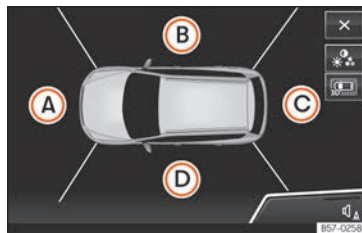

Fig. 292 Display of the Area View system: aerial view.
Key to the Fig. 292:
The aerial view is generated by combining the images from all the cameras »» Fig. 292. The aerial view can be selected by pressing the *vehicle* in the area.
Select the corresponding view by pressing the different areas »» Fig. 292 (A) to (D) of the aerial view or the reduced aerial view.
The infotainment system screen displays the aerial view »» Fig. 292. If you press the Area View button when driving above 15 km/h [9 mph], the image will not be displayed.